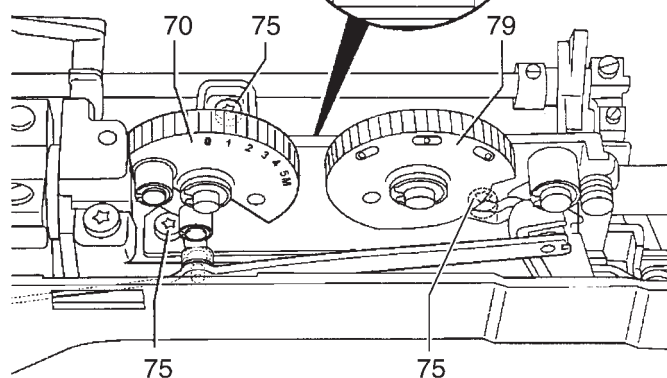

Fig. 32
- Set stitch width adjustment dial 70 to "0" (fig. 32).
- Move the zigzag-stitch unit to the left or right until the needle is exactly in the center of the needle plate slot (fig.32).